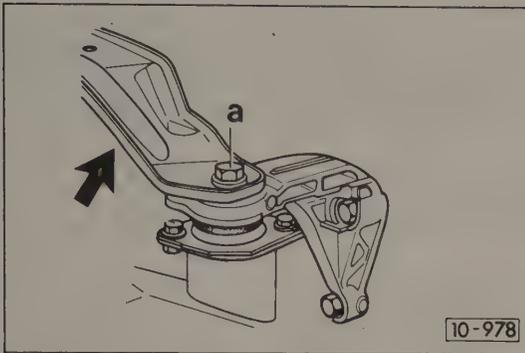

Fig. 6-16. Left transaxle mounting bolt **a** that needs to be removed. The arrow indicates the support arm.
- Remove the center bolt from the left rear transaxle mount as shown in Fig. 6-16, then remove the two through-bolts and nuts holding the mount's support arm to the transmission.